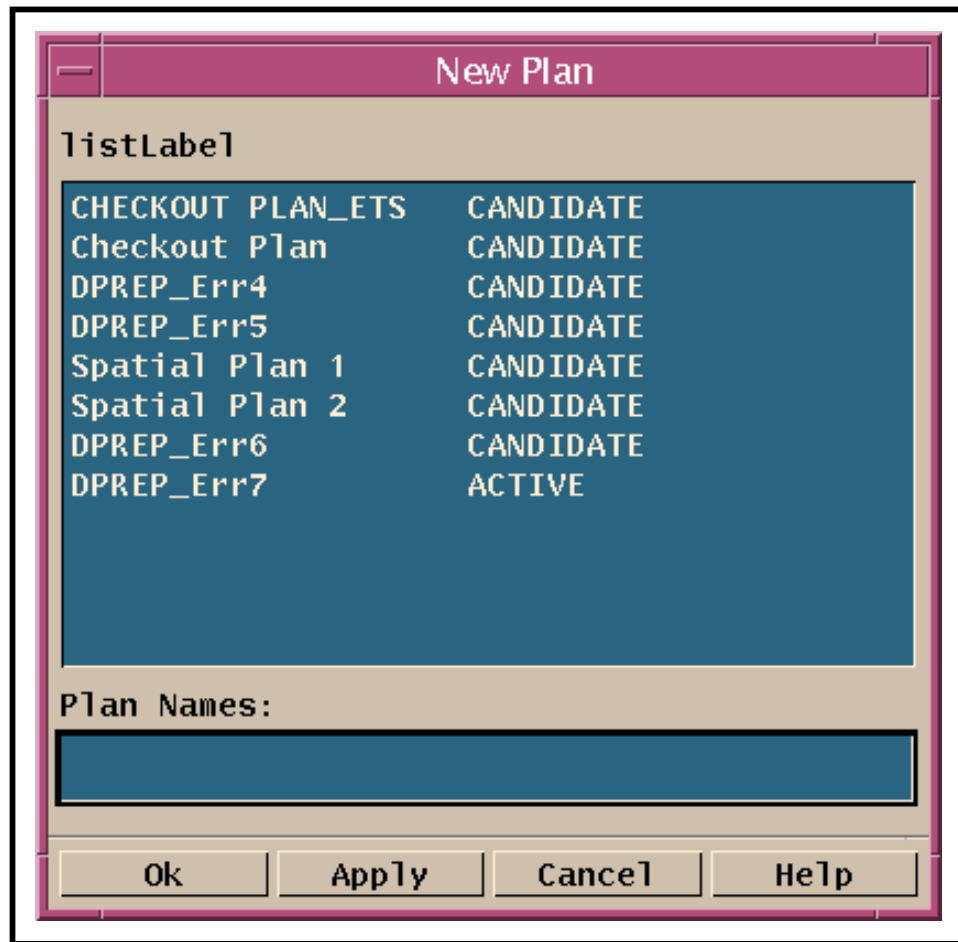

Figure 44. Planning Workbench New Plan Window
- The **New Plan** window (Figure 44) is displayed.
- Except for the title, the **Save Plan** window looks the same as the **New Plan** window (Figure 44).